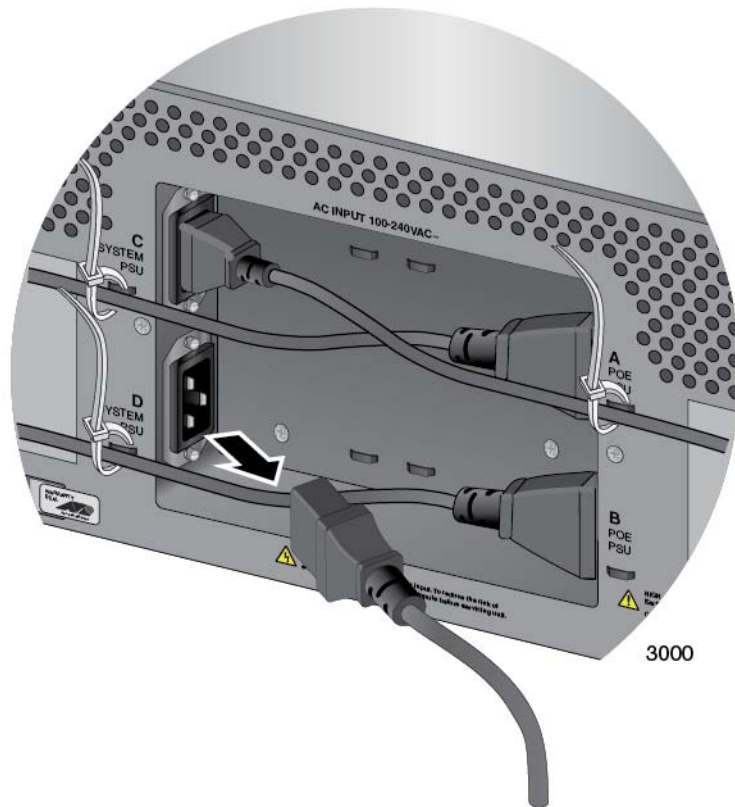

Figure 131. Disconnecting the AC Power Cord from the AC Socket on the Back Panel
1. Disconnect the AC power cord for the power supply from the AC power source and the corresponding AC socket on the back panel of the chassis. The figure in Figure 131 on page 215 shows the removal of the power cord from connector D, which powers off the power supply in slot D on the front panel.